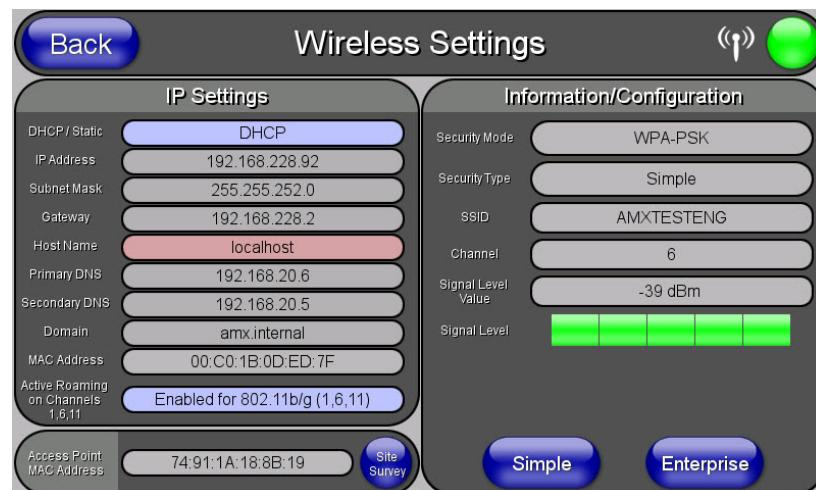

FIG. 21 Wireless Settings page
1. Press the **Wireless Settings** button (located on the lower-left) to open the *Wireless Settings* page (FIG. 21).